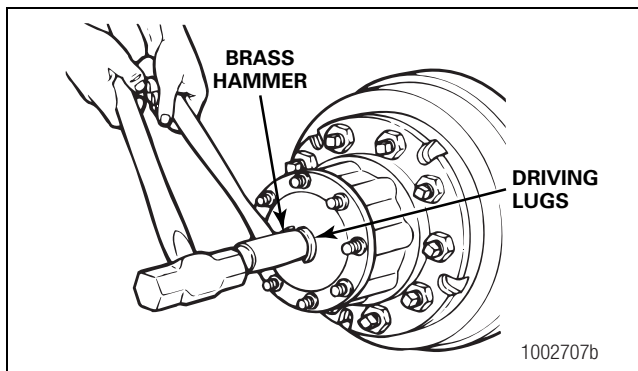

Figure 3.3
1. Hold a 1-1/2-inch diameter brass drift or brass hammer against the center of the axle shaft, inside the round driving lugs. Figure 3.3.